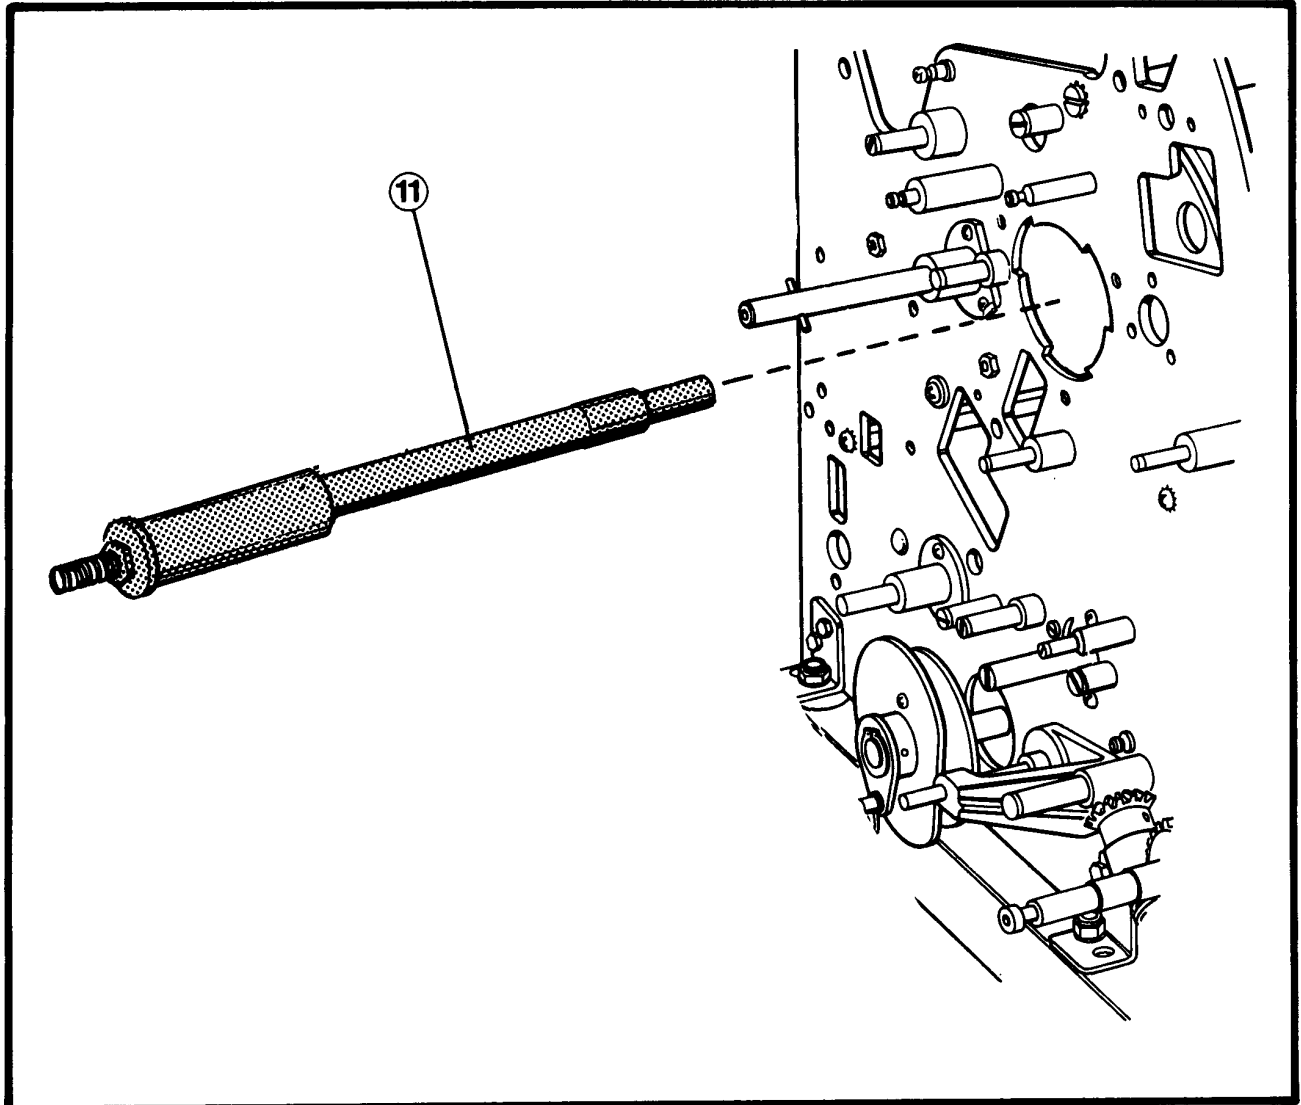

Figure 76 - Shaft Pulling Tool Insertion
11. Remove the blanket cylinder shaft from the operator side of the machine. Install the shaft pulling tool (P/N 191573) on the operator end of the shaft as shown in Figure 76.